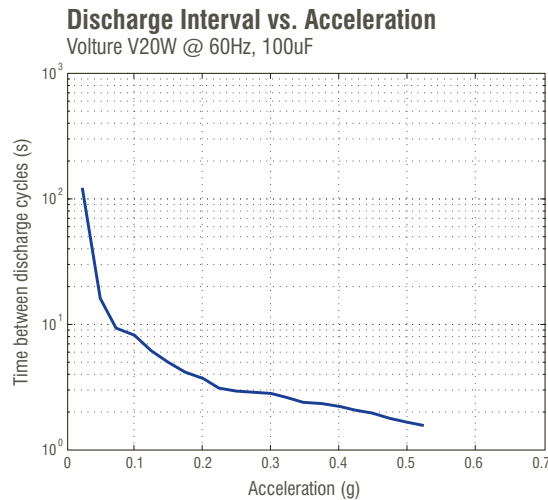

Figure 2: Discharge Interval vs. Acceleration, measured results using configuration shown
The circuit of Figure 2 provides a simple but effective approach to meeting these goals.
**Figure 2: Simple high-efficiency voltage conversion and load-isolation circuit for piezo energy harvesting applications. The C1 voltage setpoint in this example is fixed, but could be made adaptive using additional circuitry.**